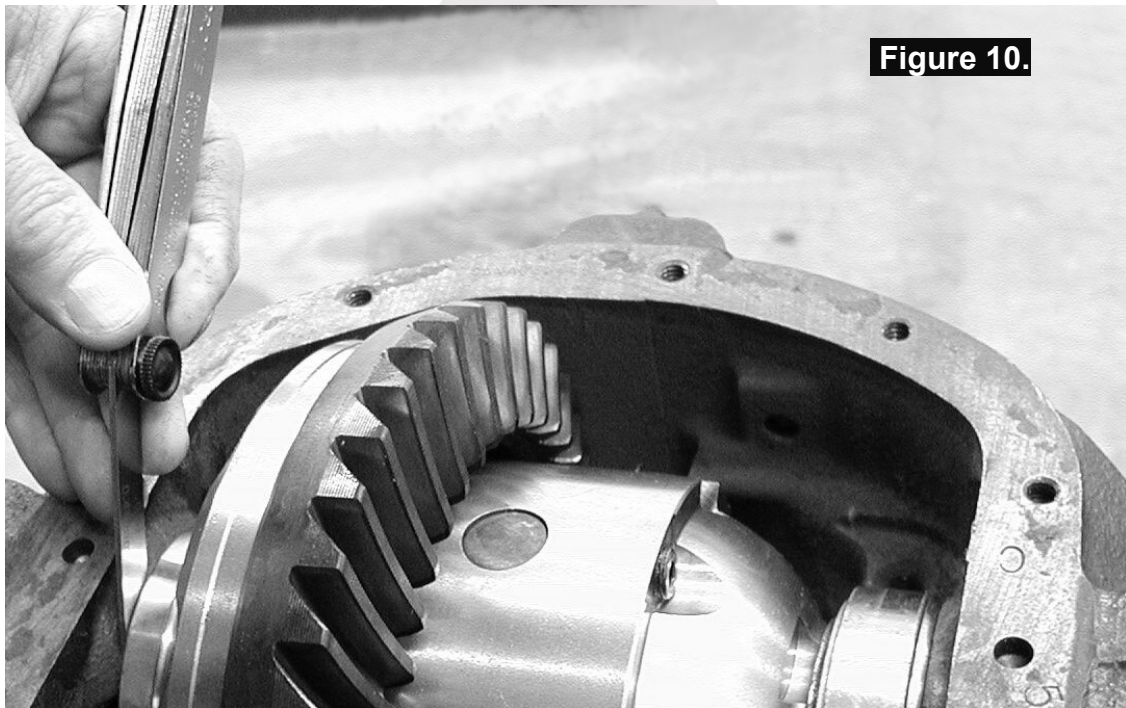

Figure 10.
- Push (or lightly pry) the *Air Locker* hard across to the right-hand side (against the ARB master shim), and measure the maximum gap (also called the 'end float') between the outside face of the left hand bearing cup and the inside face of the axle housing with an automotive feeler gauge. (Fig.10.)